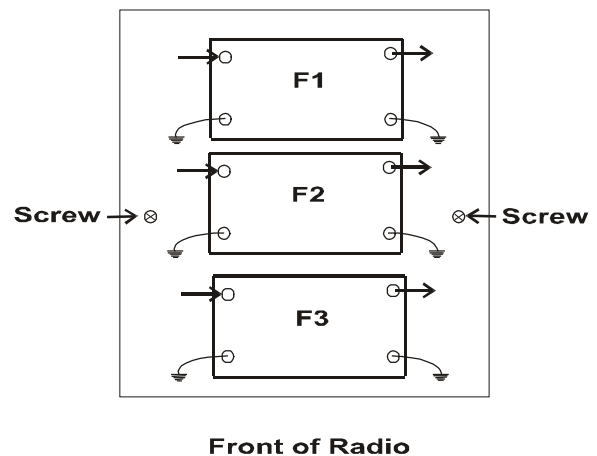

Figure 2.10-2 Filter Location Showing Ground orientation
8. Locate the F1, F2, F3 slot to insert the specific filter into. Refer to Figure 2.10-2. This is according to the Filter Cover, and not the circuit board text. The order is shown on the Filter Cover as F1, F2, F3 going from back of the rig towards the front of the rig. The ground pins are easily distinguished by the way the pins and